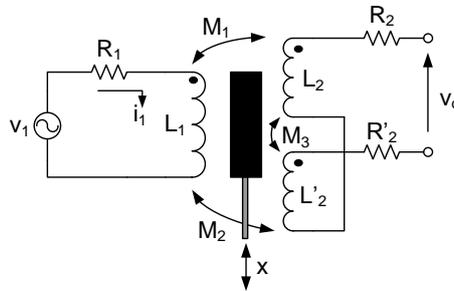

Figure 4: LVDT sensor.
An active suspension system measures the displacement between the wheels and the car body. This can be done using a linear variable differential transformer (LVDT). The sensor uses the magnetic coupling between a primary and two secondary coils to measure the displacement of a ferromagnetic core. Figure 4 shows the electrical equivalent circuit of a LVDT sensor that is connected to a voltage supply  $v_1$  with a frequency of 1000 Hz and an amplitude of 10 V. At this excitation frequency, a phase shift of  $+45^\circ$  occurs between the input voltage and the output voltage of the sensors. There is no load connected to the output of the sensor.
- (5p) (b) A sinusoidal voltage supply  $v_1$  with a frequency of 1000 Hz and an amplitude of 10 V is connected to the primary winding of the LVDT sensor shown in Figure 4. At this excitation frequency, a phase shift of  $+45^\circ$  occurs between the input voltage and the output voltage of the sensors. The sensor has a sensitivity of 0.1 V/mm. Assume that the ferromagnetic core moves with a sinusoidal movement of 100 Hz between  $x = -20$  mm and  $x = +20$  mm. Draw the excitation voltage on the primary winding ( $v_1(t)$ ), the displacement of the ferromagnetic core and the output voltage ( $v_o(t)$ ) of the sensor. (Clearly show the dimension and units on all axis.)